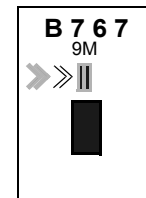

Figure 3
3.5 When the aircraft is 15m from the stop position, closing rate information is given. "Distance to go" is indicated by turning off one row of LEDs (Laser Electronic Displays) for every half metre that the aircraft advances towards the stop position. From 15m to the stop position, a digital display will indicate the distance from the stop position for every 1m. At 3m from the stop position, the display will indicate the distance from the stop position for every 0.2m (see figures 3, 4 and 5).